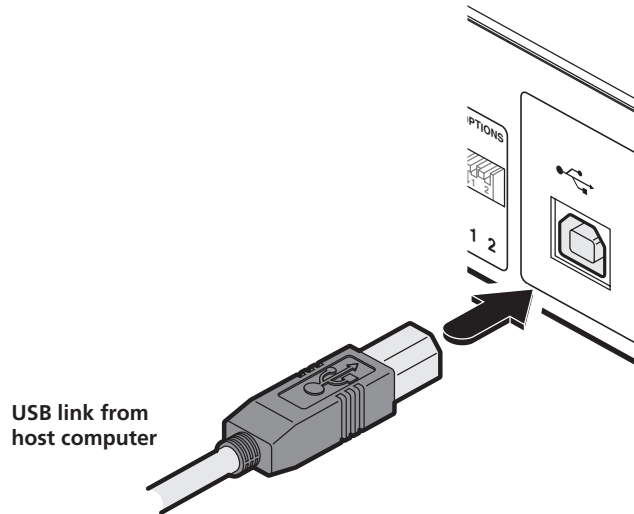

Figure 3-8. Connect the USB link cable to Local unit socket.
- 1 Connect the type B connector on a USB cable to the USB port on the Local unit rear panel. See Figure 3-8.